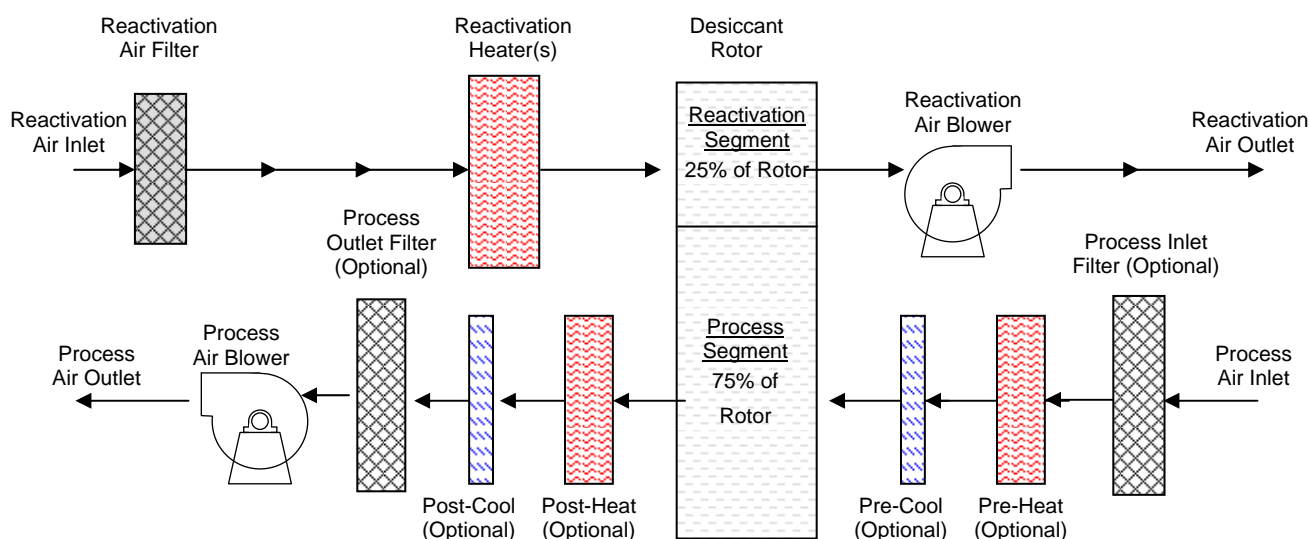

Figure 1. General Theory of Operation Diagram
1.8.2 Chilled Water (CW) Pre/Post-Cooling
Chilled Water (CW) cooling coil(s) may be mounted in the process airstream before and/or after the desiccant rotor (see Figure 1). A stainless steel condensate drain pan is provided for each set of coils, including drain ports for directing condensate out of the cabinet. The chilled water source, pump, piping, etc. must be supplied by others.
1.8.3 Direct Expansion (DX) Pre/Post-Cooling
Direct Expansion (DX) refrigerant cooling (evaporator) coil(s) may be mounted in the process airstream before and/or after the desiccant rotor (see Figure 1). Multiple evaporator coils may be included and a single evaporator coil may have two independent circuits. Multiple circuits allow better temperature and/or humidity control. A stainless steel condensate drain pan is provided for each set of coils, including drain ports for directing condensate out of the cabinet. Refer to the Refrigeration and Electrical drawings provided in the Technical Data Package supplied with your unit for details about the cooling circuits.